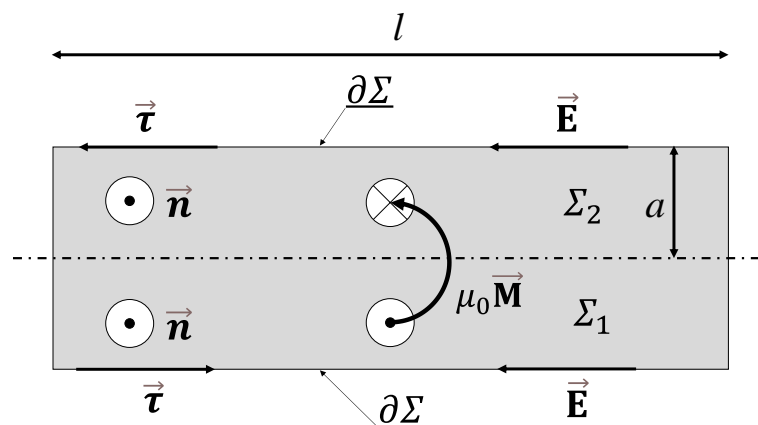

Fig. 6. Longitudinal section of the microwire representing the integration geometry for Eq. (9).
where $\vec{\mathbf{E}}$ is the vector of electrical field, $\vec{\mathbf{M}}$ is the vector of magnetization, and μ_0 is the vacuum permeability. We select the longitudinal section of the microwire passing along its axis as the integration surface, as shown in Fig. 6. Consequently, the integration contour will traverse the microwire surface, with the neglect of end effects. The first non-magnetic term $\oint_{\Sigma} (\mu_0 \vec{\mathbf{H}}, \vec{\mathbf{n}}) ds$ contributing to the emf is compensated by the bridge circuit. By performing contour integration from the left, we obtain:
where $V_M(t)$ is the voltage induced by the magnetization reversal, and $V_{out}(t)$ is the voltage measured on the first channel of the oscilloscope (see Eq. (3)). Both areas $\Sigma_{1,2} = a \times l$ (see Fig. 6), where a and l are the wire radius and length respectively. The surface integrals on the right-hand side of Eq. (10), representing the magnetic induction flux $\Phi(t)$, have dimensions in Webers (Wb). To obtain the result in Teslas (T), both sides should be normalized by the integration area $a \times l$: